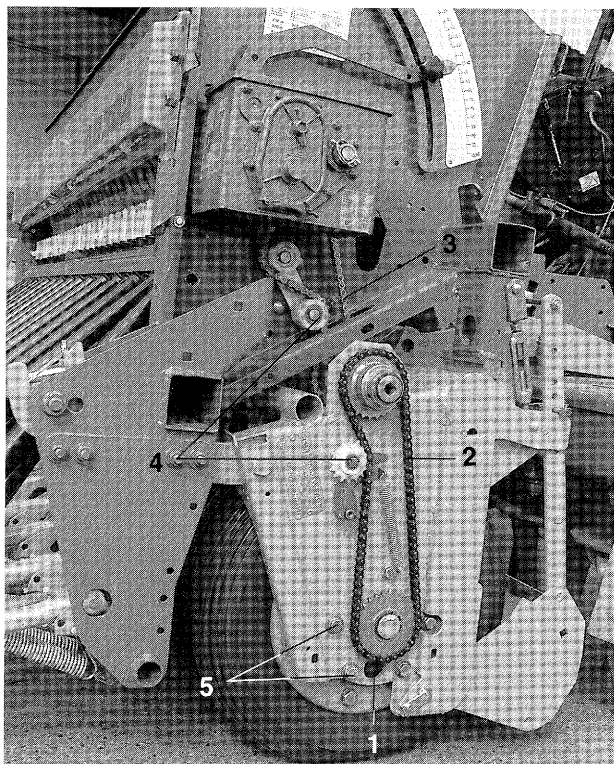

Fig. 55
The grease nipples at the axle bearings of the tyre packer (Fig. 55/1) should be greased every 50 hours of operation.
The metering components are driven by two roller chains. One of the chains (Fig. 55/2) links the tyre packer roller and the intermediate drive, the other chain (Fig. 55/3) links the intermediate drive and the gear box of the seed drill. The chains are tensioned by spring loaded chain tensioners.
-  The drive chain (Fig. 55/2) is tensioned by a spring loaded chain tensioner (Fig. 55/4). Untension chain tensioner and remove drive chain (Fig. 55/2).
-  Secure roller by chocks against unintended rolling away and remove tyre roller from its frame. For this on both sides the 5 hex. bolts (Fig. 55/5) should be unbolted.